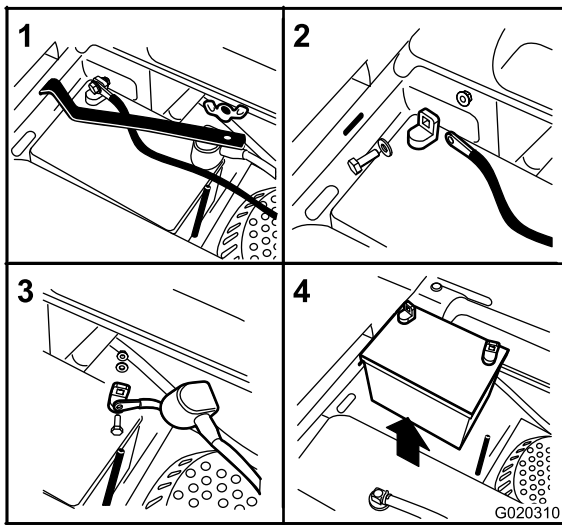

Figure 44
3. Remove the wing nut securing the battery clamp (Figure 44).
4. Remove the clamp (Figure 44).
5. First disconnect the negative battery cable (black) from the negative (-)(black) battery terminal (Figure 44).
6. Slide the red terminal boot off the positive (red) battery terminal and remove the positive (+)(red) battery cable (Figure 44).
1. Position the battery in the tray with the terminal posts opposite from the fuel tank (Figure 44).
4. Secure the cables with 2 bolts, 2 washers, and 2 locknuts (Figure 44).
6. Install the clamp and secure it with the wing nut (Figure 44).